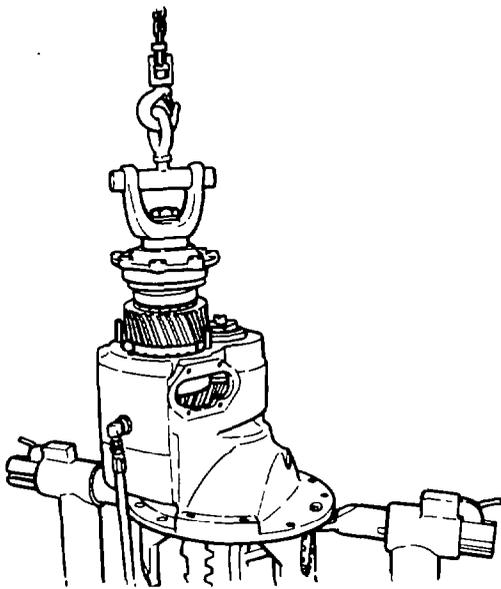

Figure 204 — Input Shaft and Inter-axle Differential Assembly — Removal
- i. Remove the bolts and washers securing the input shaft bearing housing to the carrier housing, then turn the carrier housing to a vertical position with the input shaft yoke uppermost. Connect suitable overhead lifting equipment to the input shaft yoke and remove the input shaft and inter-axle differential assembly from the differential housing (see Fig. 204).